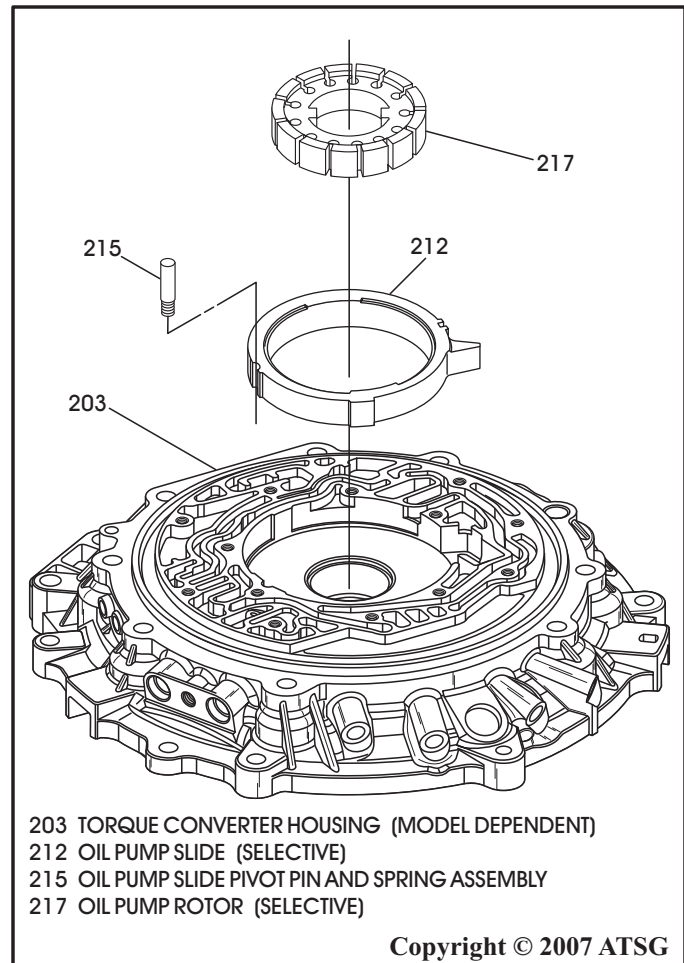

Figure 64
18. Place the converter housing on a flat surface with worm track surface facing up, as shown in Figure 64.